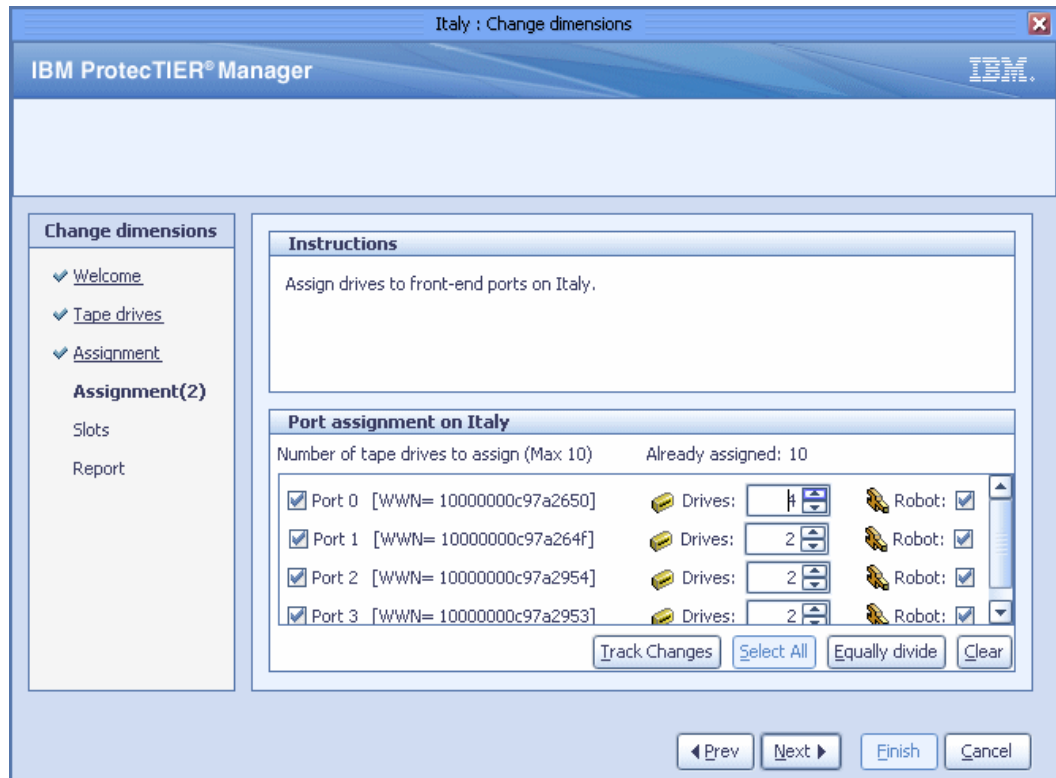

Figure 10-19 Change dimensions: Assignment(2) window
8. Click **Re-assign ports** to return to the Assignment window and continue assigning virtual tape drives. Click **Next**. If a second node exists in the cluster, the Assignment(2) window opens (Figure 10-19).